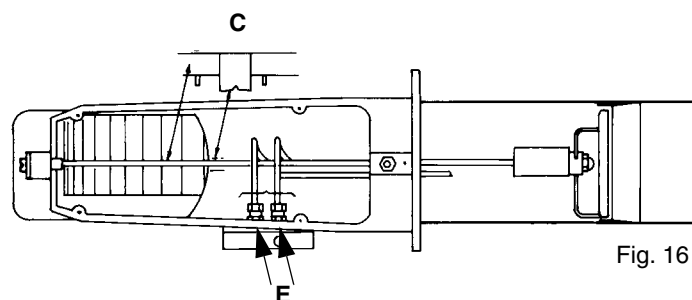

Fig. 16
- 3 unscrew the connectors from the 2 oil pipes - Fig. 16 (use 2 spanners to avoid loosening the connections to the distribution block);
- Wrong position of the ignition electrodes (see Fig. 16)